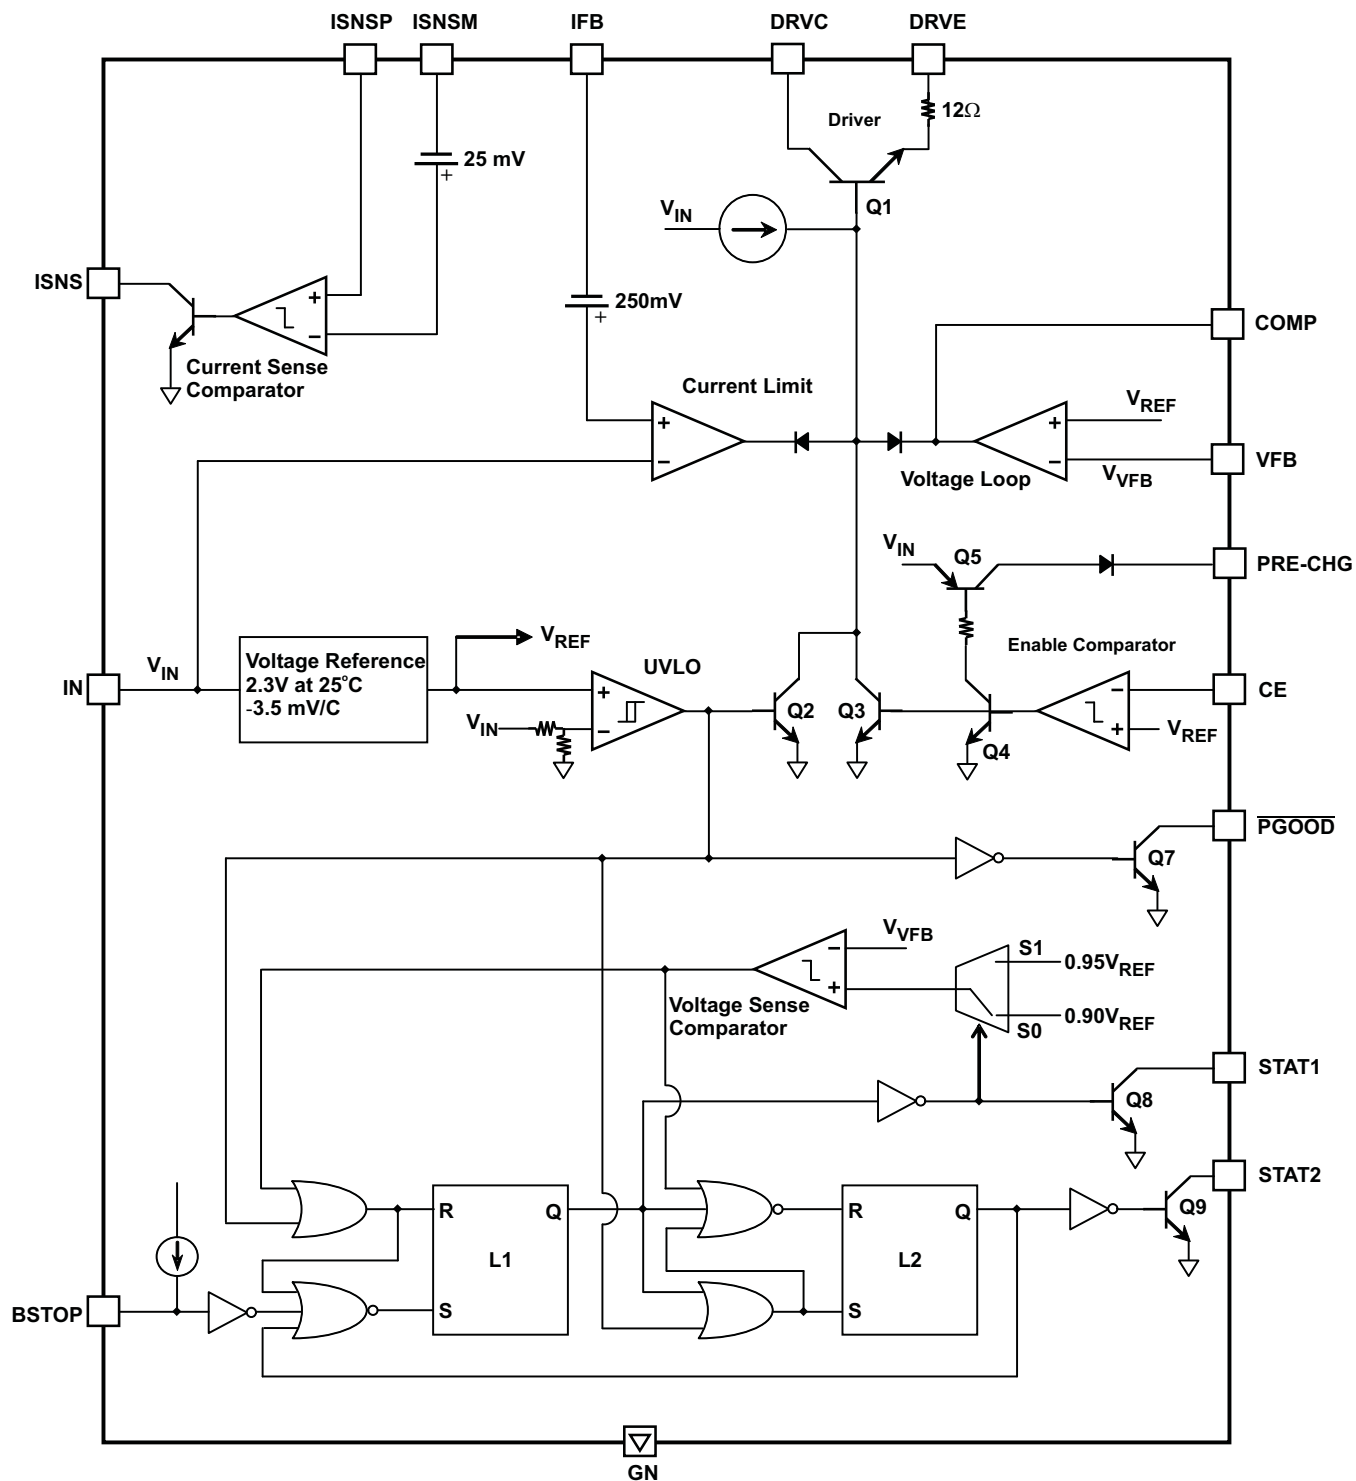
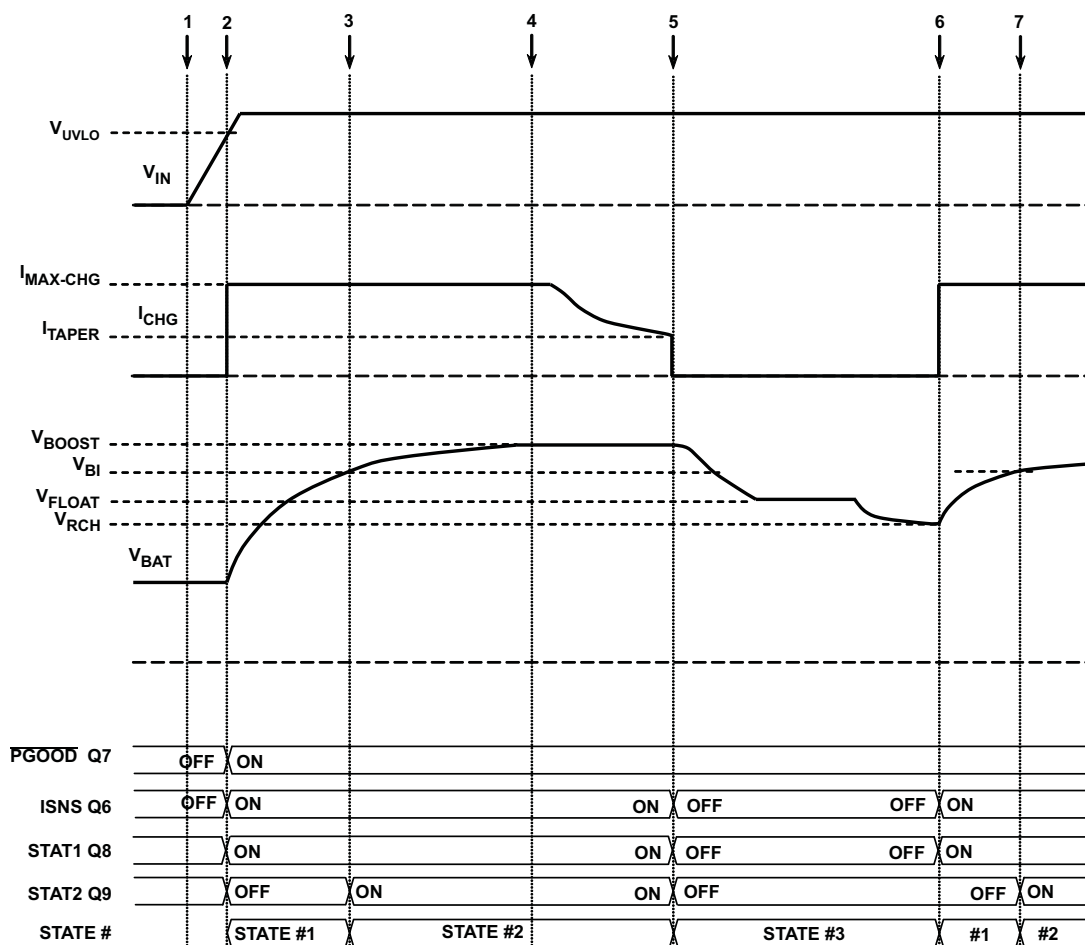

Figure 1. Simplified Block Diagram
Figure 4.
Only an external pass transistor and minimum number of external passive components are required along with the IC to implement a charger for sealed lead-acid batteries. The IC's internal driver transistor Q1 (see Figure 1) supports NPN as well as PNP pass transistors, and provides enough drive current (25mA specified) to support a wide range of charging rates.
The driver transistor is controlled by a voltage regulating loop and a current limiting-limiting loop (see Figure 1). The current-limiting loop reduces drive when the voltage between the IN pin and the IFB pin increases towards  $V_{ILIM}$  (250mV typical). The voltage regulating loop tries to maintain the voltage on the VFB pin at  $V_{REF}$ . Together, these two loops constitute a current-limited precision constant-voltage system, which is the heart of any lead-acid charger. The voltage regulating amplifier needs an external compensation circuit which depends on the type of external pass transistor (see Application Information section).
An undervoltage lock-out circuit is also provided (see Figure 1). This circuit disables the driver transistor as long as the input voltage is below UVLO (4.5V typical). The UVLO circuit also drives an open-collector output PGOOD.
Figure 3 shows the bq24450 configured as a simple dual-level float-cum-boost charger. Figure 4 shows the sequence of events that occur in a normal charge cycle. At (1) in Figure 4, power is switched ON. As long as the input voltage  $V_{IN}$  is below the undervoltage lockout threshold UVLO, Q2 is ON, disabling the driver transistor Q1. As the input voltage  $V_{IN}$  ramps up and rises above UVLO Q2 turns OFF. This enables Q1 and thus the external transistor  $Q_{EXT}$ . At the same time, Q7 turns ON, latch L1 is forced to RESET and latch L2 is SET (see Figure 1 for the internals of the Charging State Logic).